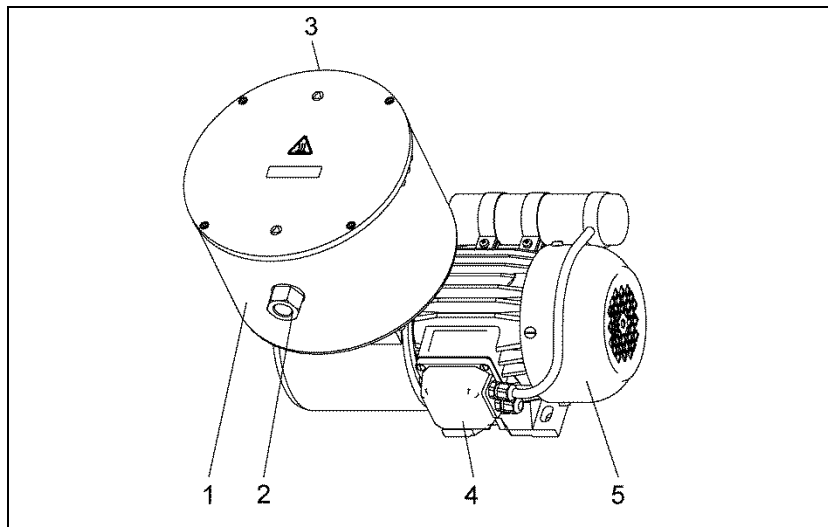

Fig. 1: N 0100_T.16 E
1. Open the terminal cover of motor (see Fig. 1, position 4).